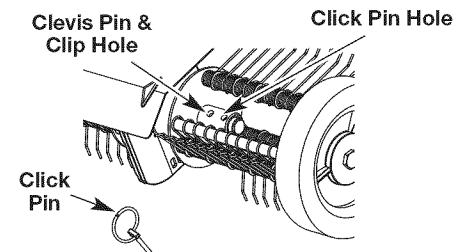

Fig. 5
2. Secure with the click pin or cotter pin through the hole. (Fig. 5)